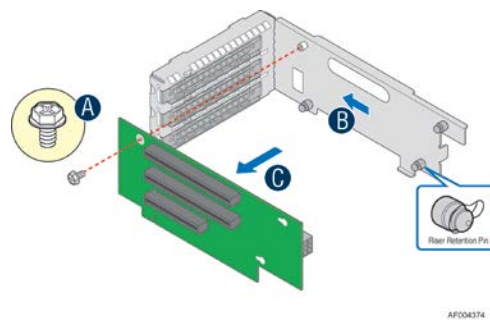

Figure 1. Existing PCIe Riser Card Removal
4. (If Present) Remove the original PCI riser card from the PCI riser assembly and discard (see Figure 1 below).